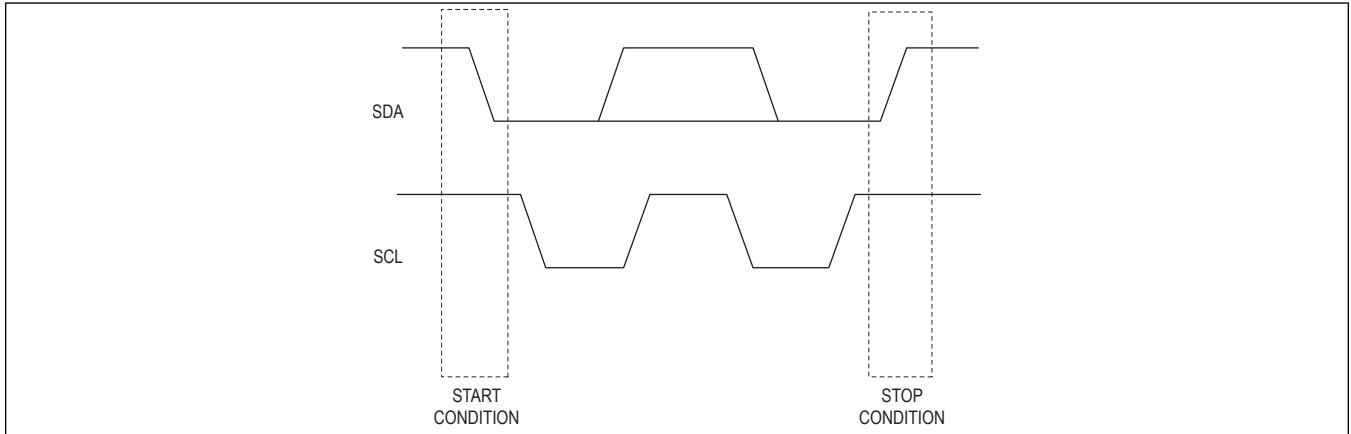

Figure 22. I²C START and STOP Conditions
Both SCL and SDA remain high when the bus is not busy. The master signals the beginning of a transmission with a START (S) condition by transitioning SDA from high to low while SCL is high. When the master has finished communicating with the IC, it issues a STOP (P) condition by transitioning SDA from low to high while SCL is high. The bus is then free for another transmission (Figure 22). Both START and STOP conditions are generated by the bus master.